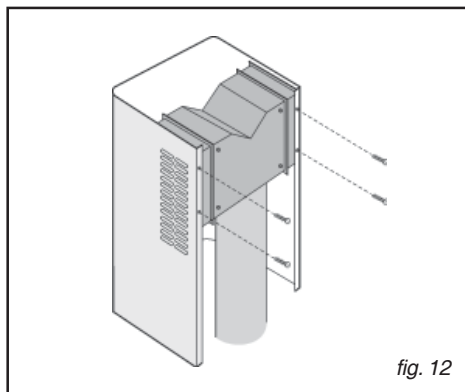

fig. 12
- Take the air baffle and fit a flexible pipe to it (125 mm diameter) locking it with a metal hose clamp (pipe and clamps are not provided); fit the air baffle to the upper flue (fig. 12) with 4 screws.